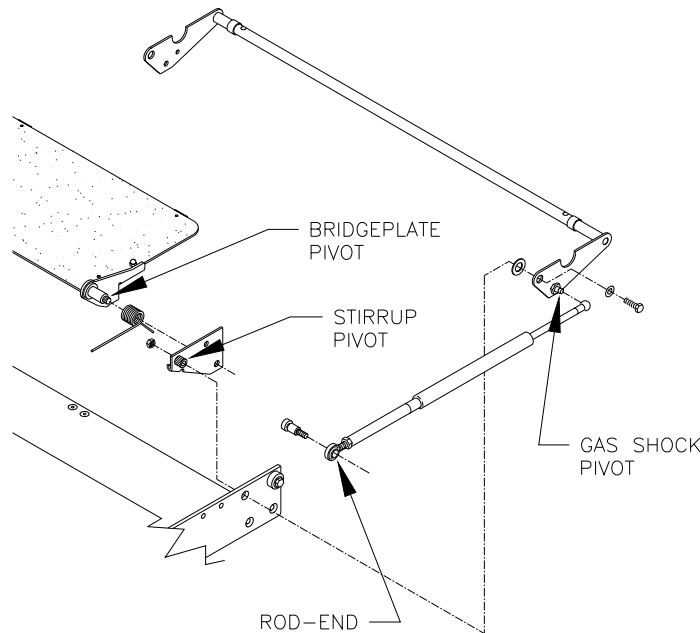

FIGURE 4-28: ACTUATOR ROD AND STIRRUP HARDWARE ASSEMBLY
- 5) Refer to **Figure 4-28**. Loosen the hardware on left side of Rollstop Bridgeplate to detach Actuator Rod and Stirrup assembly from platform.
- 12) Refer to **Figure 4-28**. Re-attach actuator rod assembly onto stirrup.
- 2) Remove power from the lift controls. Refer to **Figure 4-28**. Lubricate the points indicated in the figure with light grease (ZEP PLS, P/N 497C, Curtisol® Red Grease P/N 88167, or equivalent). Wipe off excess grease. Repeat for other side of bridgeplate.